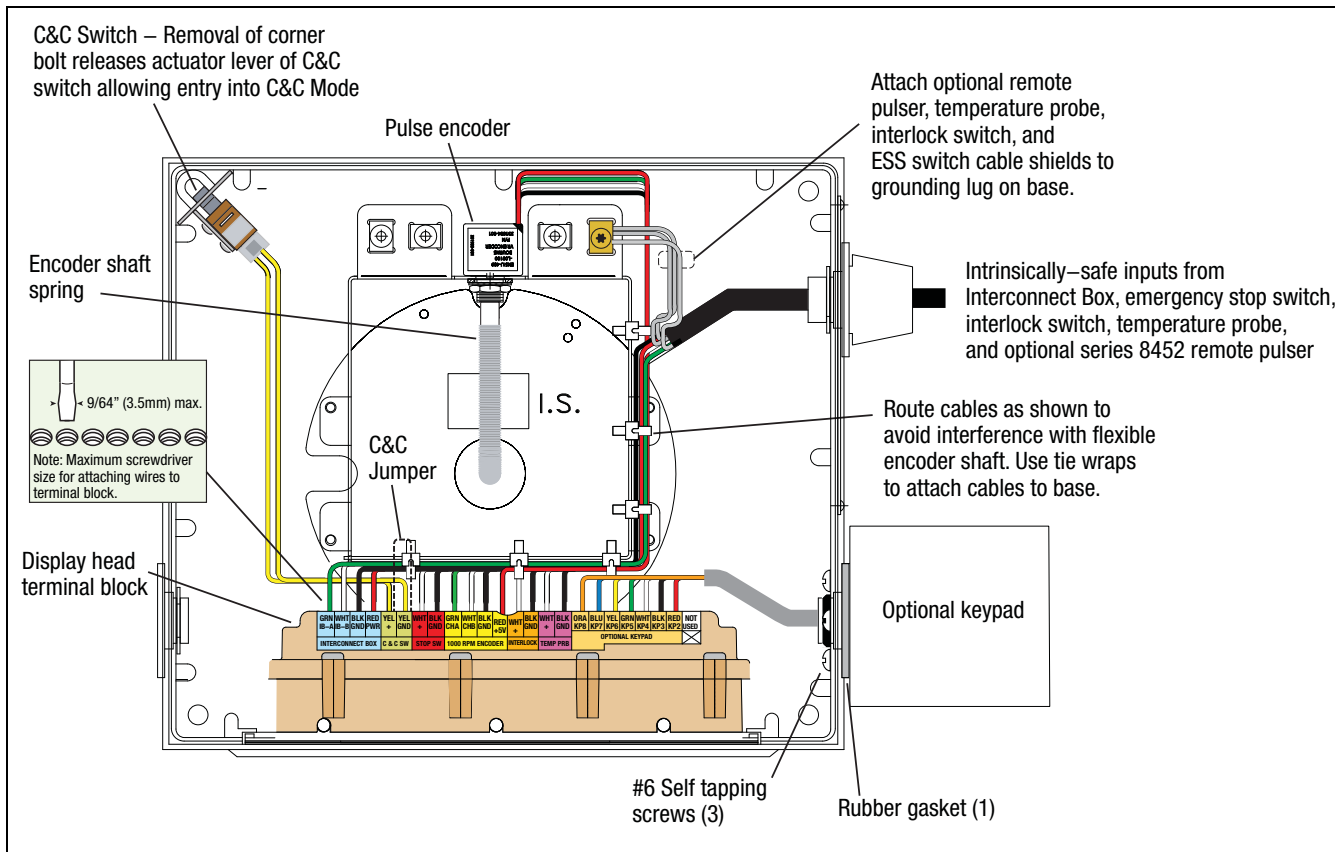

Figure 14. Display Head Cable Connections
2. Slide the cord grip nut and then the bushing over the IB cable leads. Pull enough cable through so that the leads reach the terminal block on the display assembly and can be tie wrapped to the pulse encoder mounting base as shown in Figure 14. Slide the tapered end of the bushing into the cord grip, then screw on the cord grip nut and tighten securely.
3. Attach the four-wire IB cable to the terminal block as shown in Figure 14.
4. If you have the optional temperature probe and/or ESS switch, remove the lower cord grip nut and slide it, then the tapered bushing, over the temperature probe cable and/or ESS switch cable. Pull enough cable through so that the leads reach the terminal block on the display assembly and can be tie wrapped to the pulse encoder mounting base as shown in Figure 14. Slide the bushing into the cord grip and then screw the cord grip nut onto the cord grip and tighten securely. Attach the shield of the temperature probe cable to a grounding lug on the Pulse Encoder mounting base.